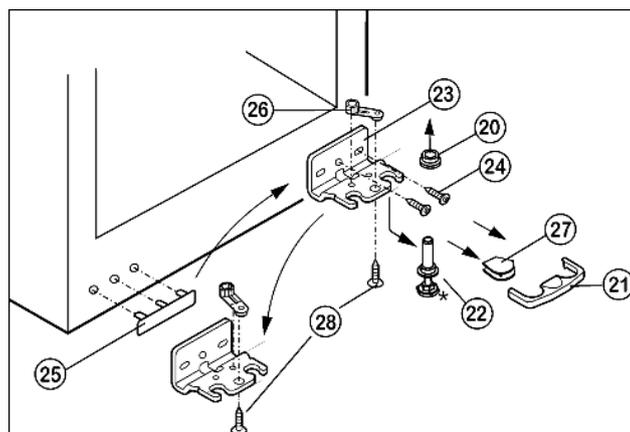

Fig. 5
- ▶ Draw the safety lock Fig. 5 (21) forwards for removal.
- ▶ Remove the cover Fig. 5 (27).\*
- ▶ Fully retract the adjustable-height foot Fig. 5 (22).
- ▶ Pull out the bearing pin Fig. 5 (22) downwards and forwards. In so doing, pay attention to the hinge bush Fig. 5 (20).
- ▶ Unscrew the turn hinge Fig. 5 (23) (2 Torx 25) Fig. 5 (24).
- ▶ Unscrew the bearing part Fig. 5 (26) (1 Torx 25), Fig. 5 (28), transfer it to the opposite hole in the turn hinge and screw it down again.
- ▶ Carefully lift off and transfer the cover Fig. 5 (25) on the handle side.
- ▶ Screw down the turn hinge Fig. 5 (23) on the new hinge side, possibly with the aid of a cordless screwdriver, through the outer oblong hole and round hole.
- ▶ Place the cover Fig. 5 (27) on the opposite side.\*
- ▶ Transfer the middle screw on the lower turn hinge Fig. 5 (23) into the free oblong hole.
- ▶ Align the door to the appliance housing by way of the two oblong holes in the lower turn hinge Fig. 5 (23).
- ▶ The safety lock (21) has to engage with the turn hinge at the side so that the bearing pin and therefore the door are secured.
- ▶ Snap the safety lock (21) onto the turn hinge again.
- ▶ Put on the hinge bush Fig. 5 (20).
- ▶ Place the door from above onto the lower bearing pin Fig. 5 (22).